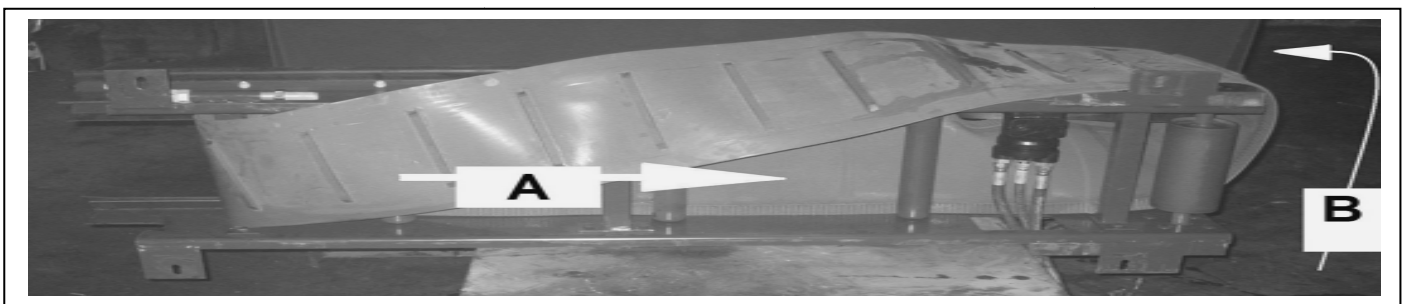

Fig 14
5. Conveyor belt, now to be pulled to other end of the bed (A) Fig 14. Rotate belt in direction (B) Fig 14), allowing belt to be removed.